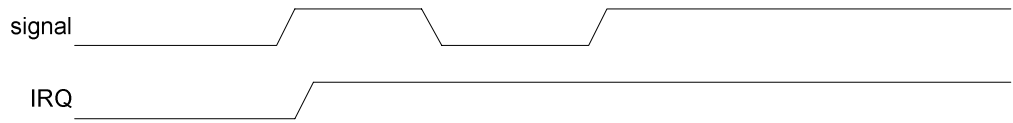
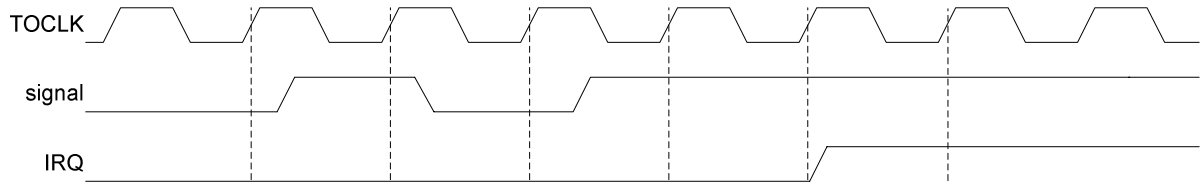

Figure 50 GPIO Latch
Figure 51 GPIO De-bounce
Three typical scenarios are presented in the following Figure 50, Figure 51 and Figure 52. The examples are:
- Latch a GPIO input (Figure 50)
- Debounce and latch a GPIO input (Figure 51)